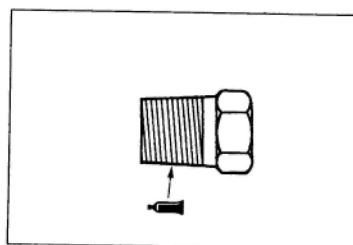

Fig 7-12
- (1) Apply specified sealant to thread of cylinder drain valve, tighten to specified torque. (See Fig 7-12);